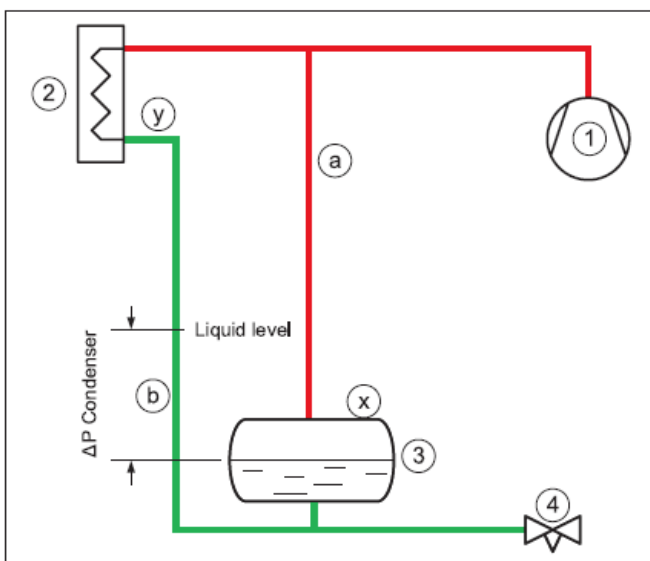

Fig. 4 Liquid level. Bottom connected receiver
- For systems with low-pressure liquid level control, the correct condenser/ receiver installation is shown in Fig. 4
- The discharge gas from the compressor (1) is led to the condenser (2) where it is condensed. The receiver (3) holds the liquid until there is a demand for liquid from the LP side, e.g., until the expansion valve (4) opens. If the expansion valve is closed, the liquid condensed in the condenser will need to be stored in the receiver and the level will increase. To ensure a free flow to the receiver, the gas must be allowed to leave the receiver; this process is accomplished through the pressure equalizing line (a).
- Fig. 4 shows the liquid connection at the bottom of the receiver.